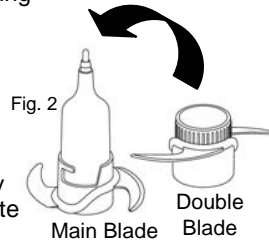
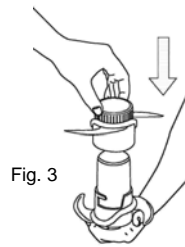

Fig. 2
Fig. 3
1. To use as a double blade, carefully slip the separate blade over the shaft of the main blade. (Fig. 2 & Fig. 3)